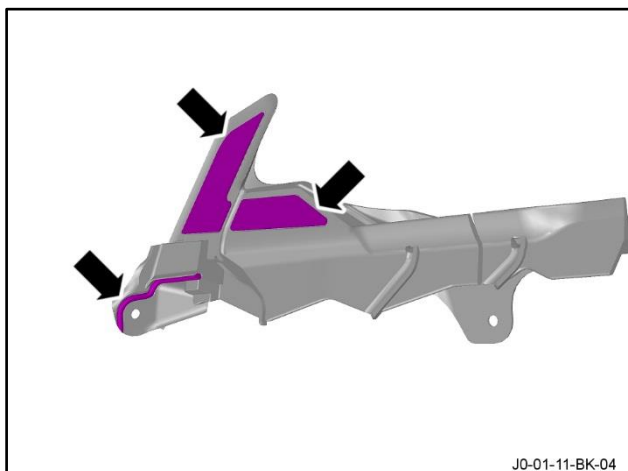

Figure 44
34. Remove the protective backing from the adhesive tape and the butyl rope on a new inner moulding for the door (refer to Figure 44).